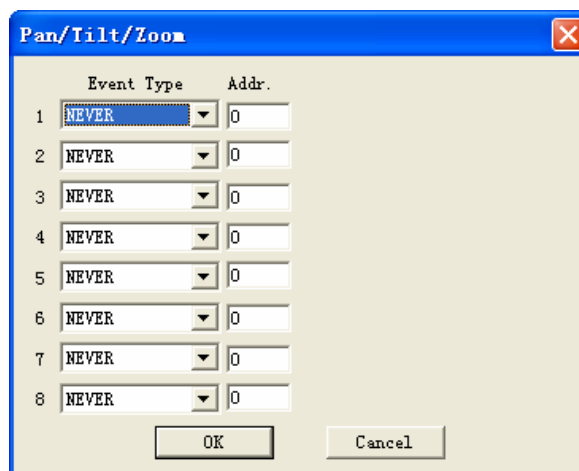

Figure 7-37
- ✧ PTZ activation: Here you can set PTZ movement when alarm occurs. Such as go to preset x when there is an alarm. Click set button, the interface is shown as in Figure 7-37.